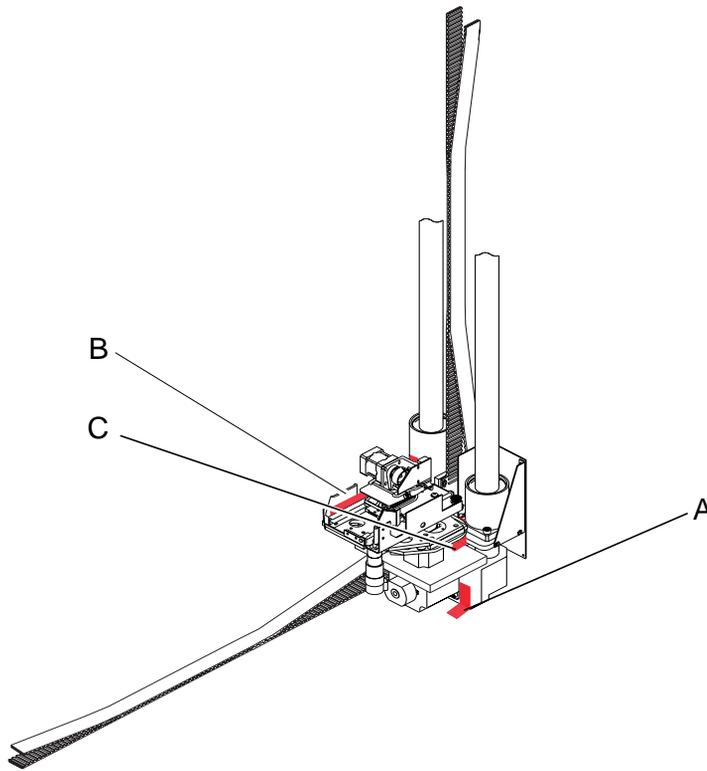

FIGURE B-1 Inserting the Shipping Restraint
3. Insert the restraints as shown in FIGURE B-1.